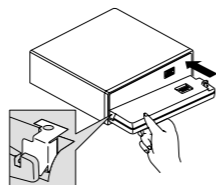

Fig. 12
**2. Replace the front panel to the unit. (Fig. 12)**